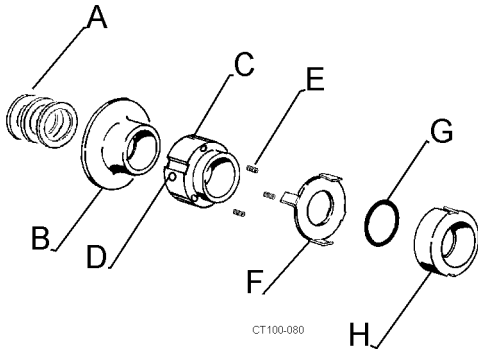

Figure 24 - Type 1 Seal Items
4. Remove the deflector (Figure 24, item B).
5. Loosen the two (2) set screws (Figure 24, item D) in the spring retainer (item C) and slide the retainer and washer (item F) off the shaft. Save the three (3) springs (item E).
8. Remove the o-ring, then lift the rotary seal off the shaft (Figure 24, items G and H).